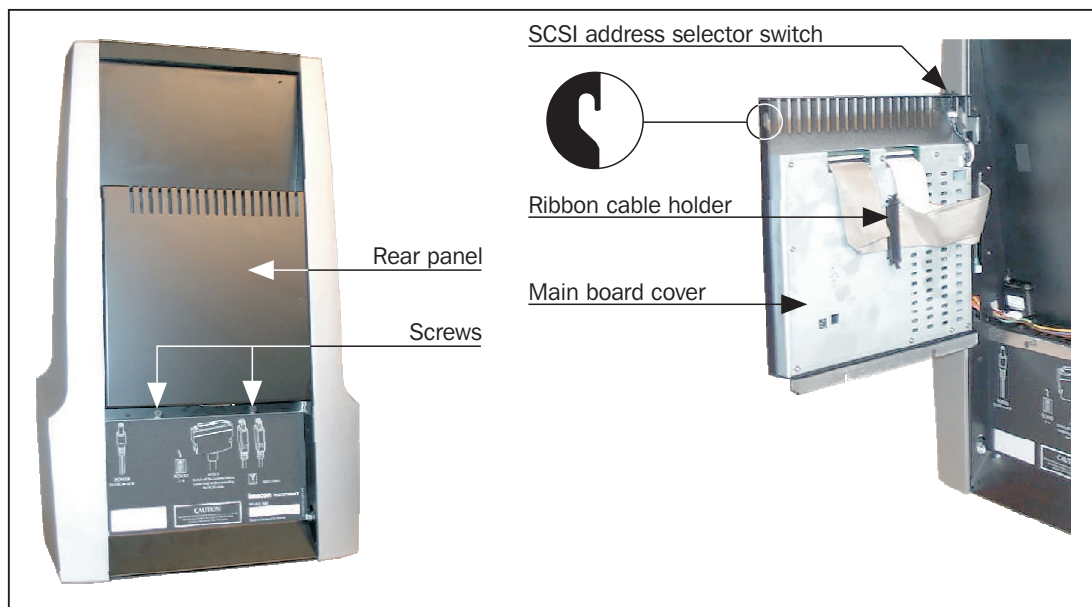

Figure 8.2: Replacing the main board
3. On the backside of the scanner locate the two allen screws (2.5 mm) as pointed out in Figure 8.2.